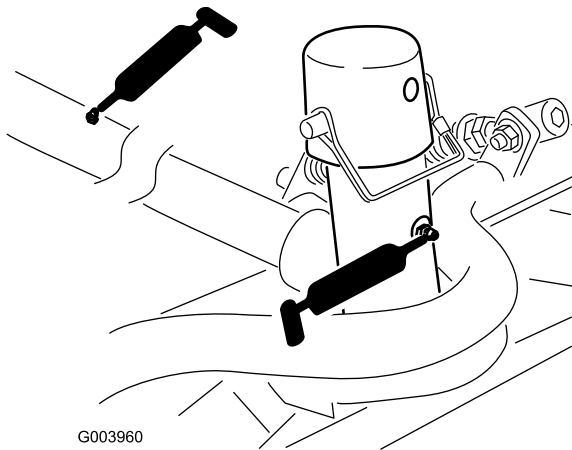

Figure 44
- Cutting unit carrier frame and pivot (2 each) (Figure 44)